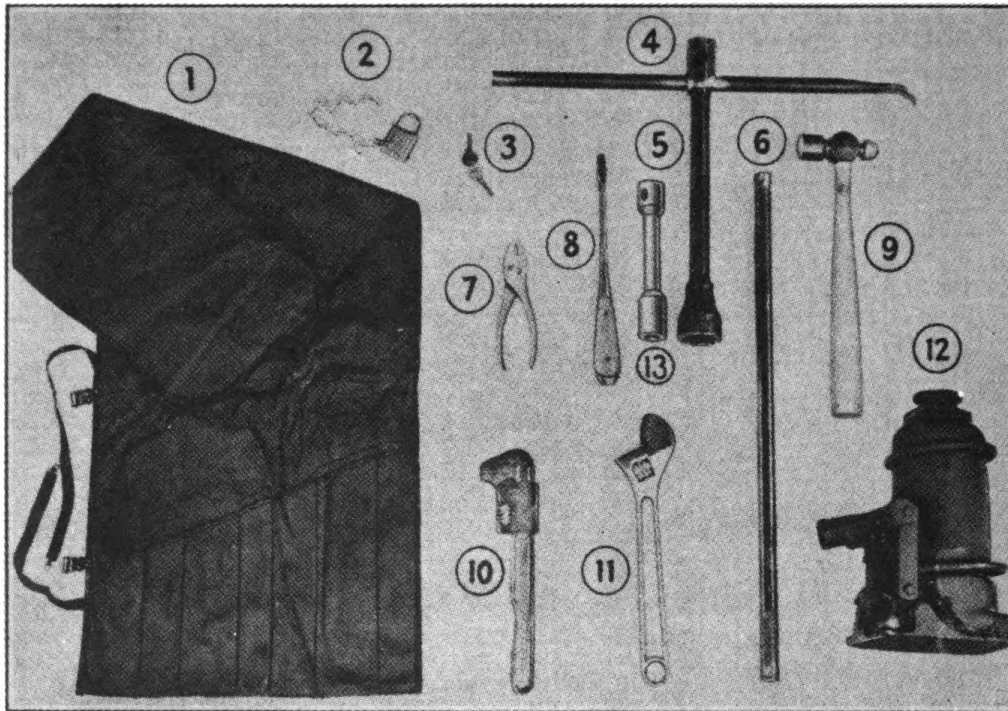

FIGURE 5. TOOLS AND TOOL KIT
2. TOOLS.—Tools issued with the vehicle are illustrated in Figure 5.